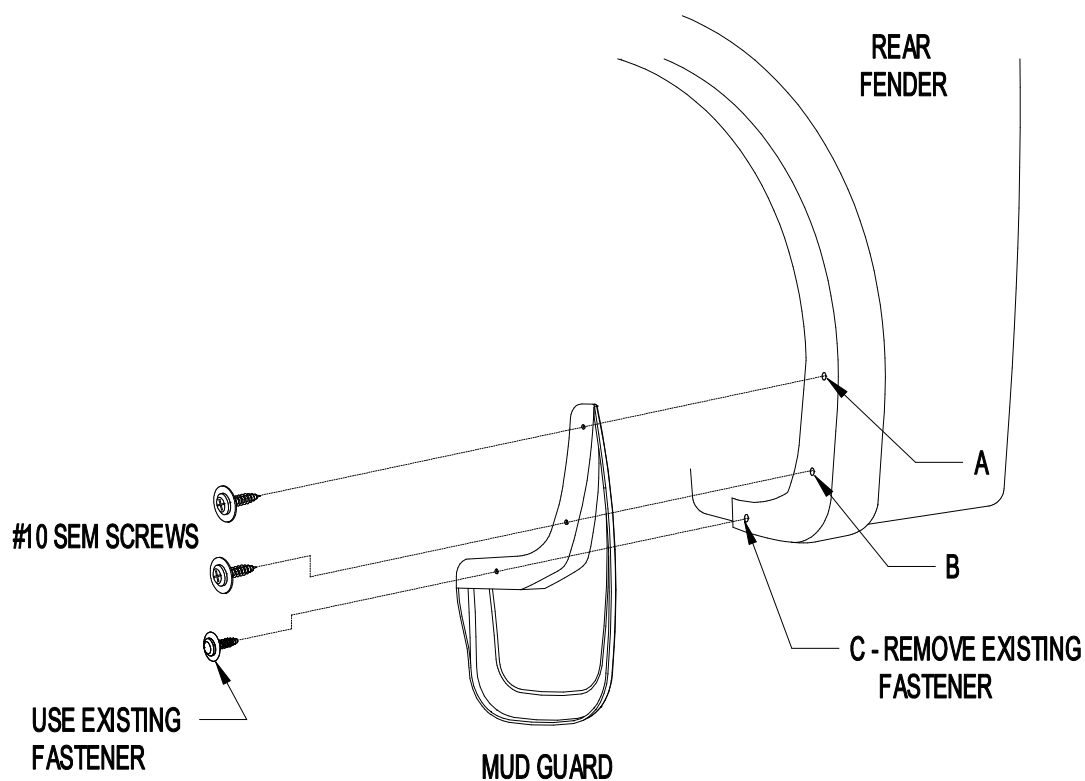

Figure 1
- #10 SEM Screw (4)
3. Install mud guard to rear fender with existing fastener at location C (Figure 1). Check fit and parallel and adjust accordingly before tightening.